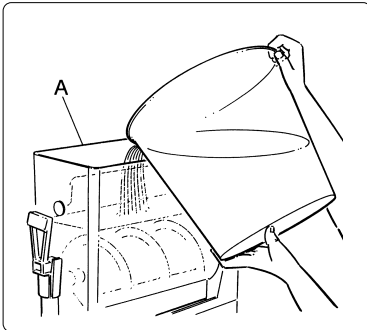

Fig. 4
- b) Pour the product obtained into the tank (A) (see fig. 4).